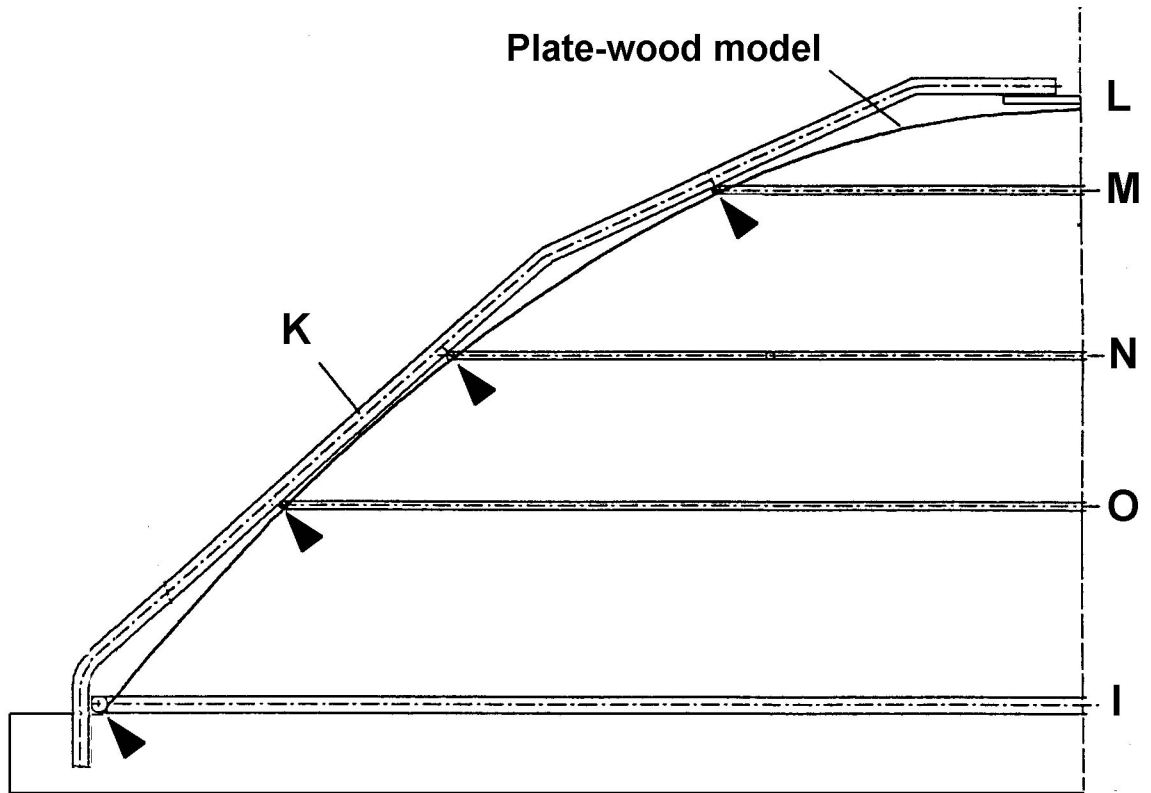

Figure 7: Connection bar K perfectly attached to the circles on the wood model
9. Cut seven pieces of 90 cm length and  $\varnothing$  12 mm for the ring connection bars (part K). First bend only one bar according to figure 7. Then try it out at the wood-model with the rings. The connection bar has to touch all the 4 circles and the sheet metall without any force and without moving the rings! Normally several little corrections of the bending angles are needed until it fits.
10. Take one connection bar after the other, make corrections until the bar fits nicely (see figure 7), put it in one position marked on the largest ring and fix the connection bar with iron wire and pincers. Be very carefully not to move the ring during the twisting of the wire!